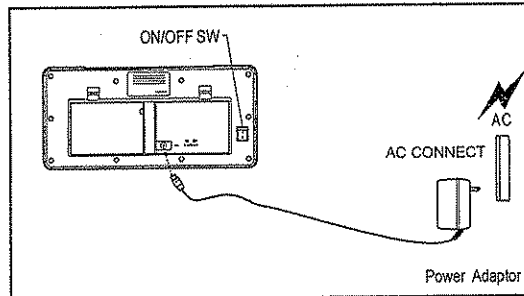

Figure 2-2
- II** Plug the appropriate end of the supplied DC wall transformer into the power receptacle on the back of the multi purpose timer. See Figure 2-2 below.
- III** Plug the wall transformer into a standard AC outlet. See Figure 2-2 Below.